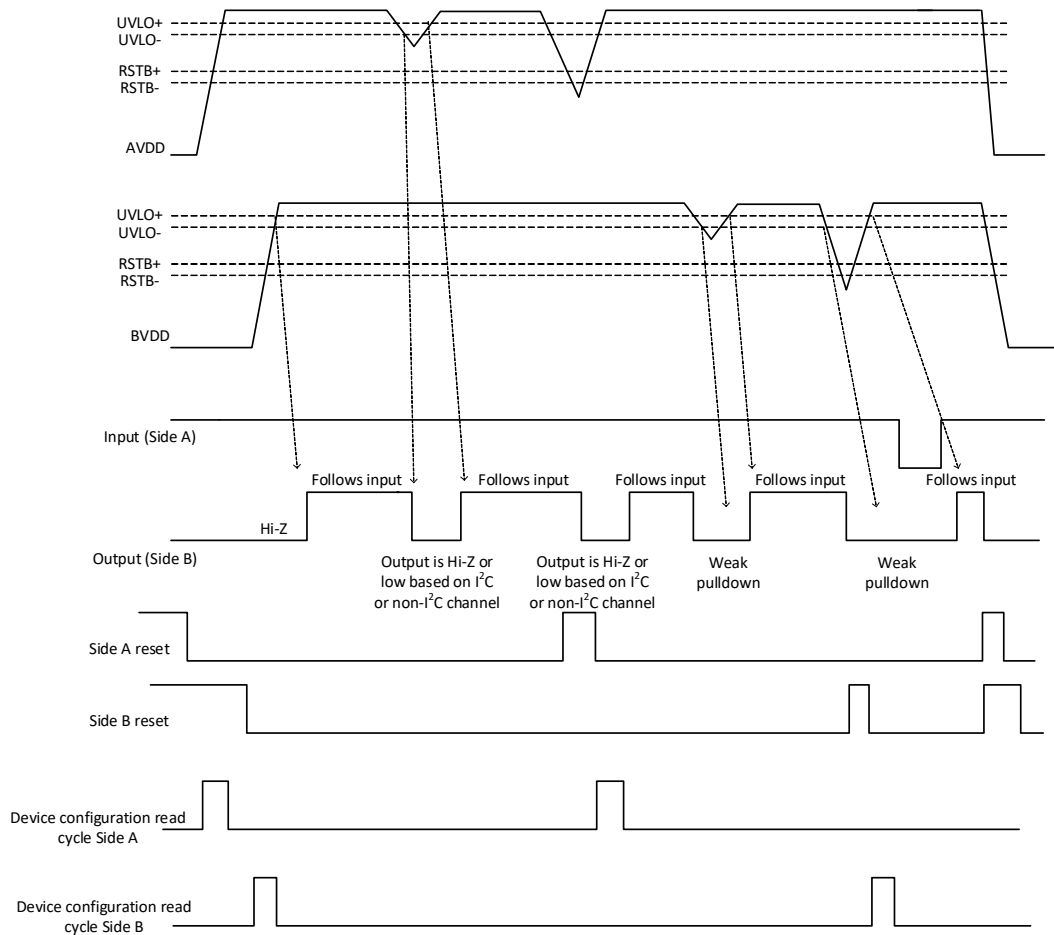

Figure 5. Device Behavior During Startup
Undervoltage Lockout (UVLO) is provided to prevent erroneous operation during device startup and shutdown or when VDD is below its specified operating circuits range. Side A and Side B each have their own undervoltage lockout monitors. Each side can enter or exit UVLO independently. For example, referring to Figure 5, Side A unconditionally enters UVLO when AVDD falls below UVLO– and exits UVLO when AVDD rises above UVLO+. Side B operates the same as Side A with respect to its BVDD supply.
- Powered (P) state is defined as 3.0 V < VDD < 5.5 V.
- Unpowered (UP) state is defined as VDD = 0 V.
- Refer to Figure 5, "Device Behavior During Startup," on page 5. This shows the start-up time from unpowered state, below 1.7 V (RSTB) threshold to powered state, is 0.3 ms. If VDDO only dips below 2.1 V (VDDOK level in diagram below) but stays above RSTB level, the start-up time is 1 μ s.